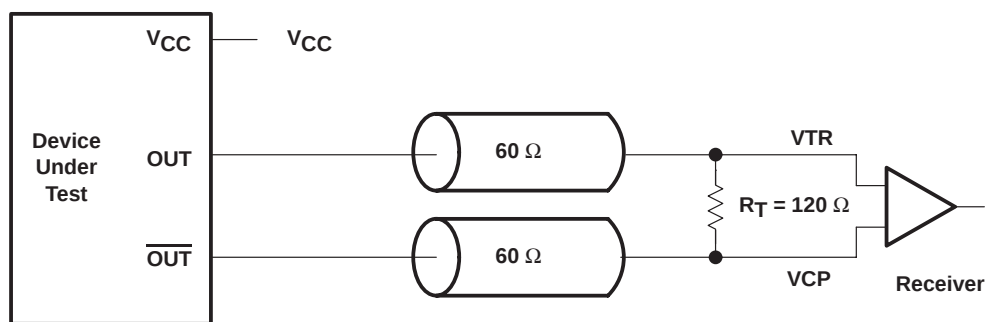

Figure 3. Differential Signal Using Direct Termination Resistor
6. Differential input signal voltage specifies the differential voltage $|V_{TR} - V_{CP}|$ required for switching, where V_{TR} is the true input level and V_{CP} is the complementary input level (see figure 3).
[‡] The value of V_{OC} is expected to be |V_TR + V_CP|/2. In case of each clock directly terminated by a 120-Ω resistor, where V_TR is the true input signal voltage and V_CP is the complementary input signal voltage (see Figure 3).
Figure 3 shows the differential clocks are directly terminated by a 120-Ω resistor.